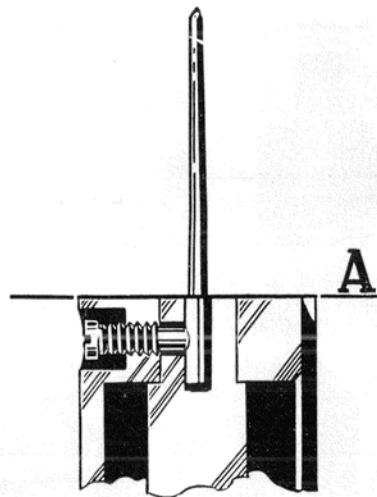

Fig. 17. Attachment of fuel needle.
3. Fit a new fuel needle. Check that this is marked as mentioned in the Specifications. Push the needle so far into the piston that only the tapered working section is outside it. See Fig. 17. Tighten the lock screw.